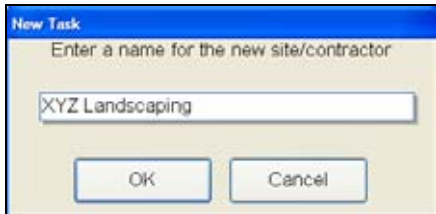

Figure 9.1.6
3. Type in the name of the site, company, or person that you want this setting to be identified by (Figure 9.1.6)